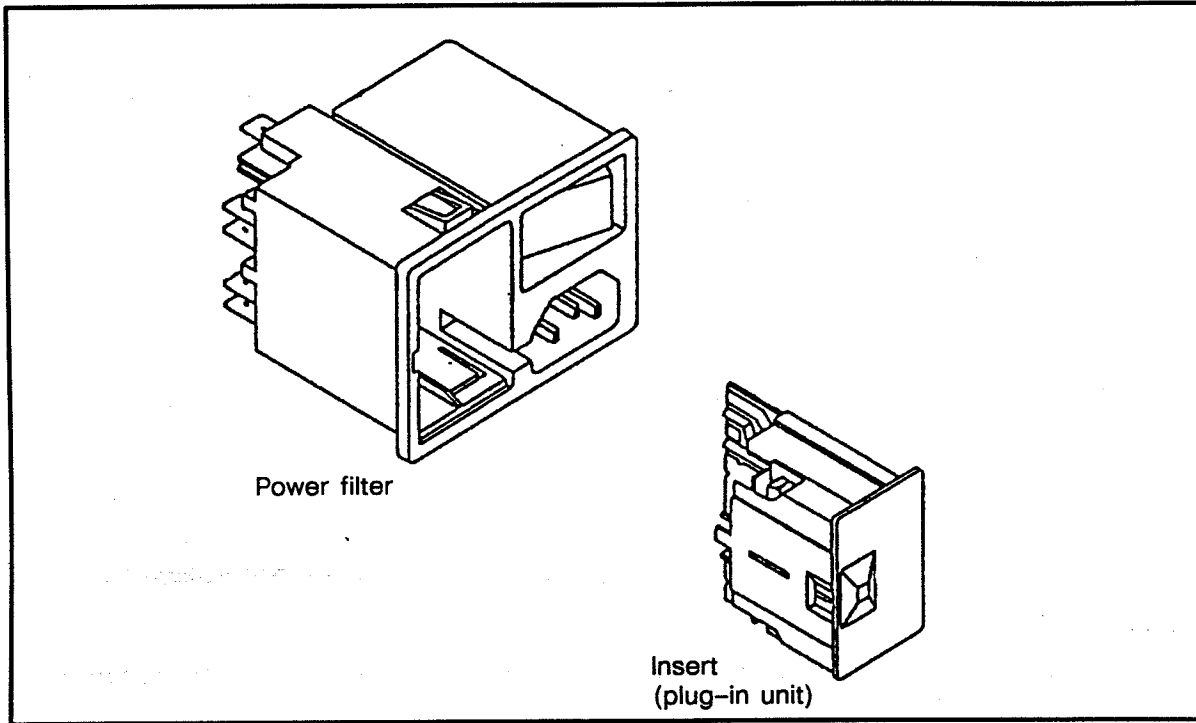

Figure 1.12 Power filter/insert
- Pull out the insert (figure 1.12).